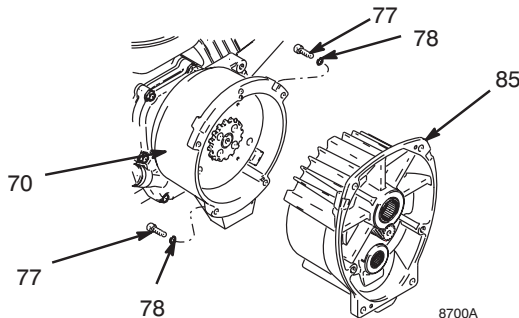
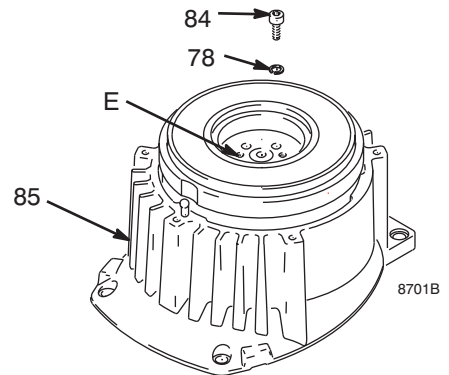

FIG. 6
FIG. 7
4. FIG. 6. Remove five screws (77) and lockwashers (78) and pinion assembly (85).
5. Place pinion assembly (85) on bench with rotor side up.
6. FIG. 7. Remove four screws (84) and lockwashers (78). Install two screws in threaded holes (E) in rotor. Alternately tighten screws until rotor comes off.
8. FIG. 7. Place pinion assembly on bench with rotor side up.
9. Apply Locktite to screws. Install four screws (84) and lockwashers (78). Alternately torque screws to 125 in-lb (14 N·m) until rotor is secure. Use threaded holes to hold rotor.
10. FIG. 6. Install pinion assembly (85) with five screws (77) and lockwashers (78).